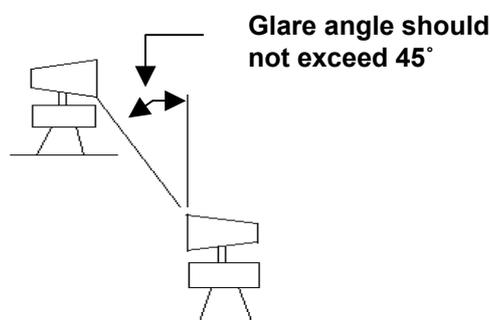

Figure 3.3. Dual Scanner Positioning (glare angle)
7. Interference from an adjacent radar antenna: the vertical separation between antennas should be as large as practicable. As a minimum, the glaring angle between antennas should be less than 45° (see Figure 3.3).